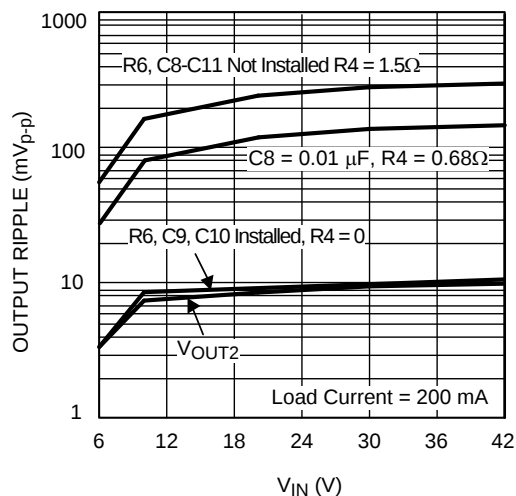

Figure 6. Voltage Ripple at V_{OUT1} , V_{OUT2}
The LM25010 requires a minimum of 25 mVp-p ripple at the FB pin, in phase with the switching waveform at the SW pin, for proper operation. In the basic application circuit shown in the data sheet, C8 is not included. The required ripple at FB is derived from the ripple at V_{OUT1} , which is generated by the inductor's ripple current passing through R4 and the ESR of capacitor C7. Since the ripple voltage at V_{OUT1} is attenuated by the R2/R3 feedback divider, a minimum of 50 mVp-p is required at V_{OUT1} . If this ripple level is acceptable for the intended application, C8 can be removed from this evaluation board, and R4 increased to 1.5 Ω . In that case, the minimum ripple amplitude (≈ 55 mVp-p) occurs at minimum V_{IN} (6 V), and increases to ≈ 300 mVp-p at $V_{IN} = 42$ V, as shown in Figure 6.
A) Ripple Reduction Option A: This EVB is supplied with C8 installed, and $R4 = 0.68\Omega$, providing a relatively low ripple output at V_{OUT1} since C8 couples the output ripple directly to FB without attenuation. The ripple amplitude at V_{OUT1} ranges from 30mVp-p to 150 mVp-p (see Figure 6) as V_{IN} is varied over its range. The minimum value for C8 is calculated from:
The resulting ripple at V_{OUT1} ranges from 3 mVp-p at $V_{IN} = 6 V$, to 11 mVp-p at $V_{IN} = 42 V$, and varies slightly with load current (see Figure 6). These values are valid only for continuous conduction mode (load current is between 120 mA and 1.3A). If the load current is reduced below 120 mA such that the circuit operates in discontinuous conduction mode the V_{OUT1} ripple ranges from ≈ 40 mVp-p to ≈ 120 mVp-p. If the circuit is operated in current limit mode the ripple ranges from ≈ 100 mVp-p to ≈ 300 mVp-p.
B) Ripple Reduction Option C: Connect the load to V_{OUT2} (leave R4 in). The ripple at this output varies from ≈ 3 mVp-p to ≈ 10 mVp-p over the input voltage range (see Figure 6). However, the load regulation is not as good at V_{OUT2} as at V_{OUT1} due to the presence of R4. This alternative may be preferred for applications where the load current is relatively constant.